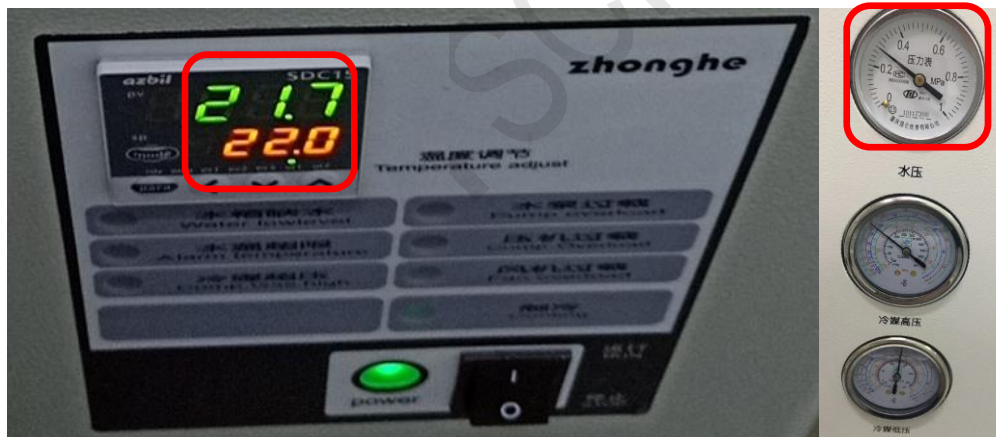

Fig 6-2 Temperature and pressure shown on the chiller
6.5.1 Power on the chiller system, set the temperature at 22 °C with deviation of ± 2 °C, and water pressure stabilize around 0.28 MPa (Fig 6-2); Please report to staff if values exceed the corresponding ones.